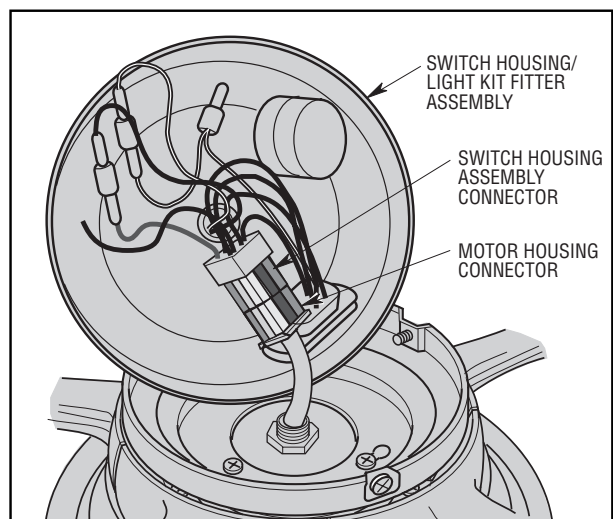

Figure 9
17. Engage the connector of the switch housing assembly with the motor connector (Figure 9). The two connectors are keyed and color-coded and must be mated correctly (color-to-color) before they can be engaged. Make sure the connector latch closes properly.
19. Position the switch housing assembly on the switch housing cover plate and align the holes in the switch housing assembly with the holes in the plate. Secure the switch housing assembly by installing the three switch housing screws (supplied) (Figure 9).